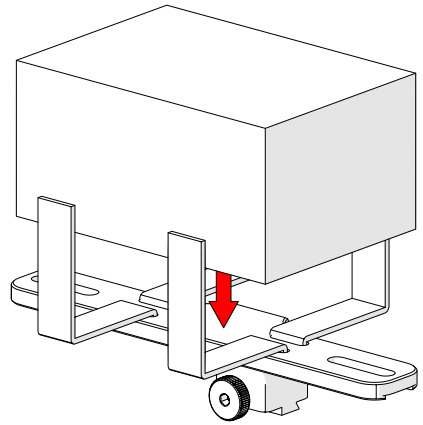

Fig. 274 - Place preamp and wrap velcro
2. Centre and place the preamp on the bracket wrapping the velcro around the preamp (*Fig. 274*).